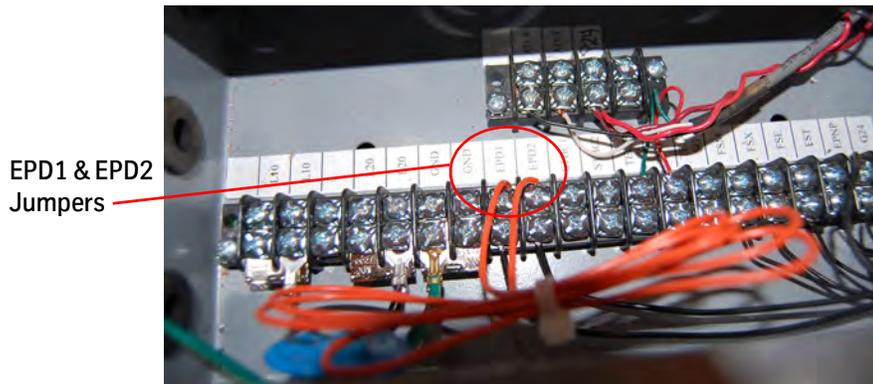

Figure 4 - EPD1/EPD2 Jumpers
2. Use a temporary jumper to connect EPD1 and EPD2 (located in the Trades Access Panel, on the top of the controller). See Figure 4.